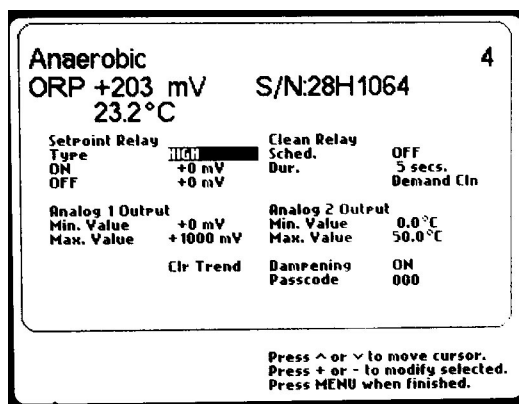

Figure 43 - Channel Setup - pH /ORP
3. On the CHANNEL SETUP screen (Figure 43), use the up or down arrow keys to change the highlighted field to DAMPENING, located near the lower right corner of this screen.